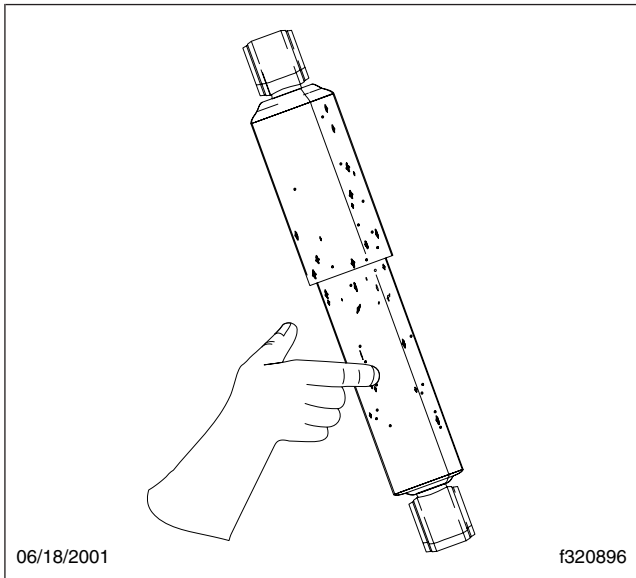

Fig. 1, Temperature Touch Test
3. All shock absorbers should be warmer than any part near the shock absorber (spring, frame). Suspect a failure in any shock absorber that is noticeably cooler than the shock absorber on the other end of the axle. Different temperatures from axle to axle do not indicate failures, but cooler temperatures on any one axle does warrant removal and examination of the cooler shock absorber. See Fig. 1.